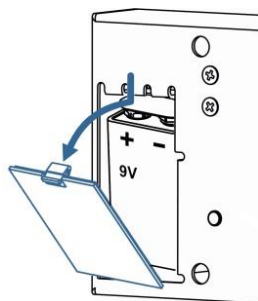

Fig. 5.1
- Open the cover of the battery box (Fig.5.1).